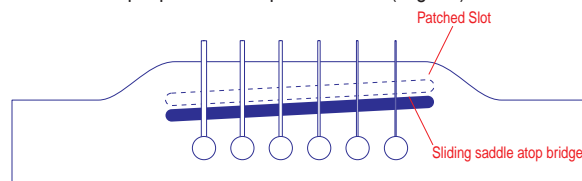

Figure 2 - FINDING INTONATION
2. Check for intonation before routing. Ideally, set the action and restring first to determine if the slot needs to be moved. If so, patch the slot, smooth off the bridge top and lay a piece of some hard material on the top of the now slotless bridge. String up and tap the test saddle around to locate the proper saddle placement. (Fig. 2)